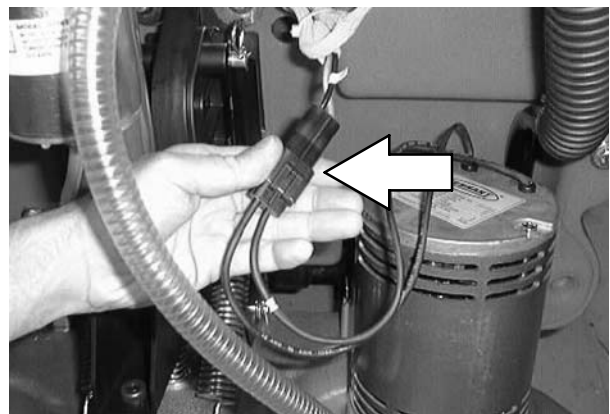

FIG. 9
4. Connect the scrub head wire harness to the main wire harness. Refer to FIG. 9.